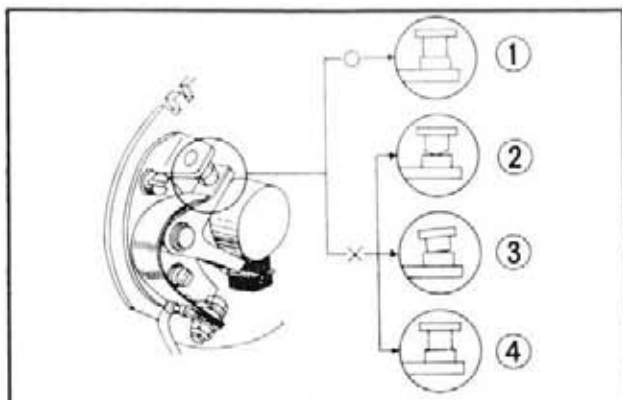

Fig. 7-17 ① Correct
- a. Dress the pitted or dirty point with either a point file or emery paper, however, if the condition is relatively severe, remove the contact breaker arm and dress the points on both the arm and the stationary point with an oil stone, making sure that the points will have parallel contact when assembled. The point gap should be adjusted to **0.012~0.016 in (0.3~0.4 mm)**. (Fig. 7-17)